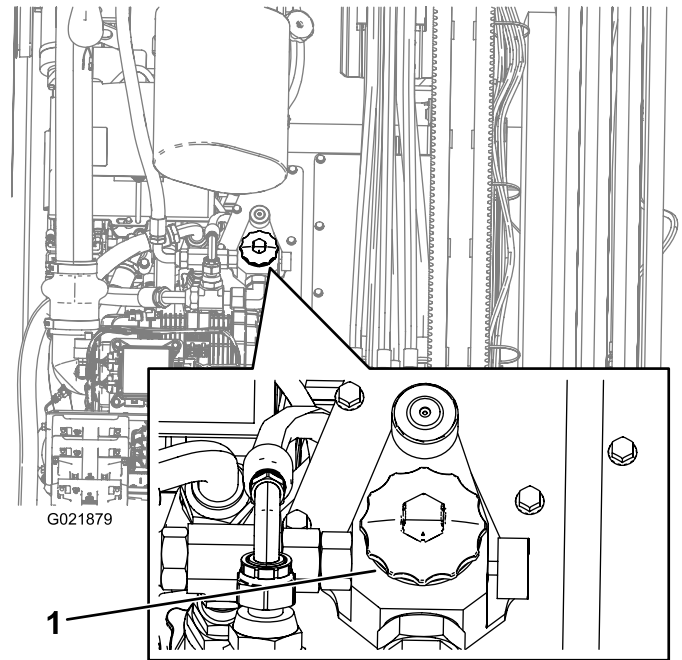

Figure 109
4. Open the hydraulic-tank cap (Figure 109).
10. Place a drain pan under the filter and remove the filter (Figure 109).